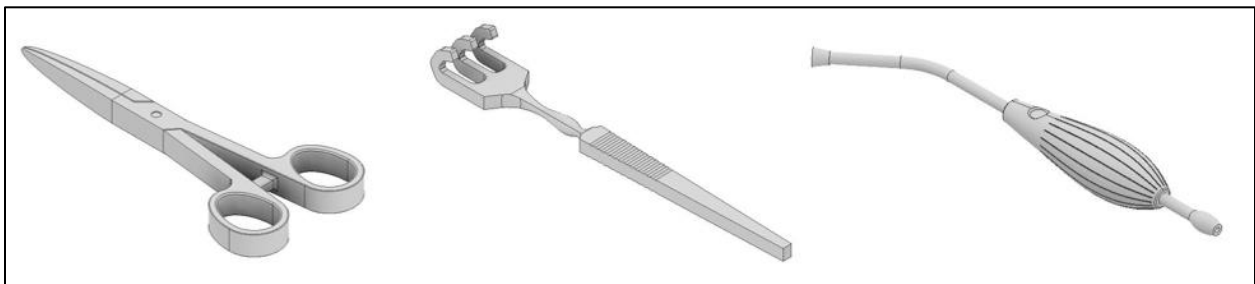

Figure 1. Each team will be required to design a container that *securely* holds in place one of the above surgical tools.
1. A solid model (*.IPT file) of a surgical tool (Figure 1)